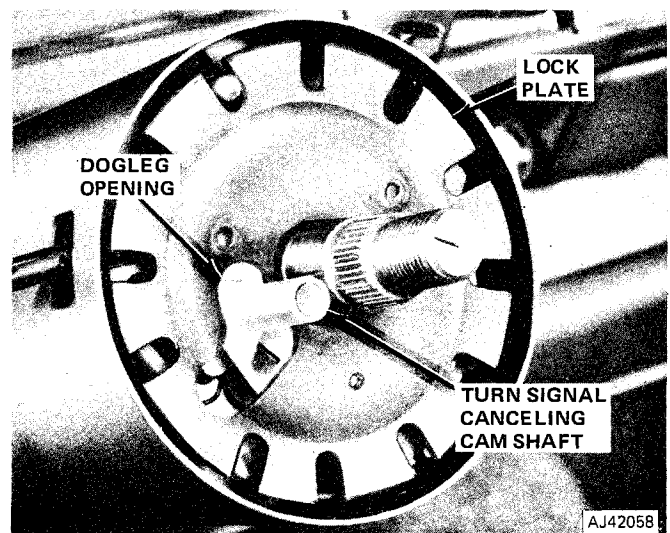

Fig. 2J-33 Canceling Cam and Lock Plate Position
(25) Install replacement steering shaft snap ring on sleeve of Lock Plate Compressor Tool J-23653 and install tool on steering shaft (fig. 2J-24).
CAUTION: Inspect and identify the steering shaft nut thread type before installing the compressor tool. If the shaft has metric threads (fig. 2J-2), be sure to replace the compressor tool standard forcing screw with Metric Forcing Screw J-23653-4 before installing the tool on the shaft.